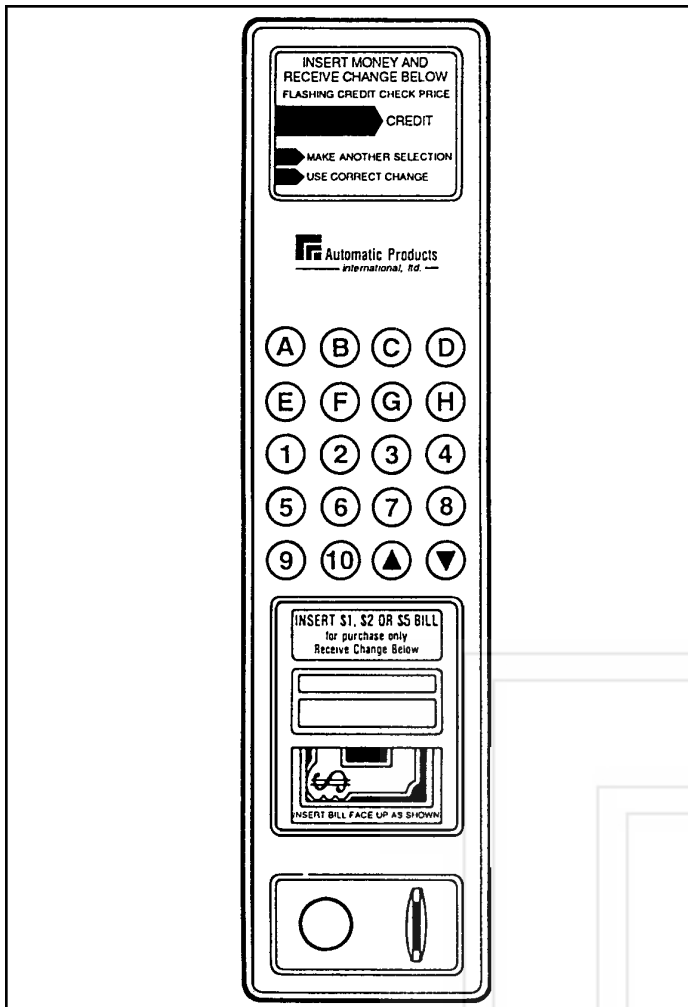

Figure 10.
4. **PRESS #4 - Price Set Mode.** To begin the price setting procedure, press key [4]. The controller will display "Prc" and wait for a selection to be entered. Once the selection is entered, the current price will be displayed. The price can now be increased with the scrolling up (▲) button or decreased with the scrolling down (▼) button. (Figure 10.) The maximum price can be set to \$99.95. Setting a selection price to \$00.00 will put it on free vend.
- c. Using the up (▲) or down (▼) buttons will change to the price desired. (Figure 10.)
6. **Selection Panel.** The selection panel (Figure 10.) on the Snackshop LCM incorporates that use of a self enclosed membrane switch panel. This eliminates the need for individual switches and wiring. The membrane switch panel is housed in a panel with individual buttons protecting the switch face. The panel front also houses the display lens. The display lens gives instructions to the customer for 2 conditions which might occur (make another selection/use correct change). The display lens also contains 3 LED lights.